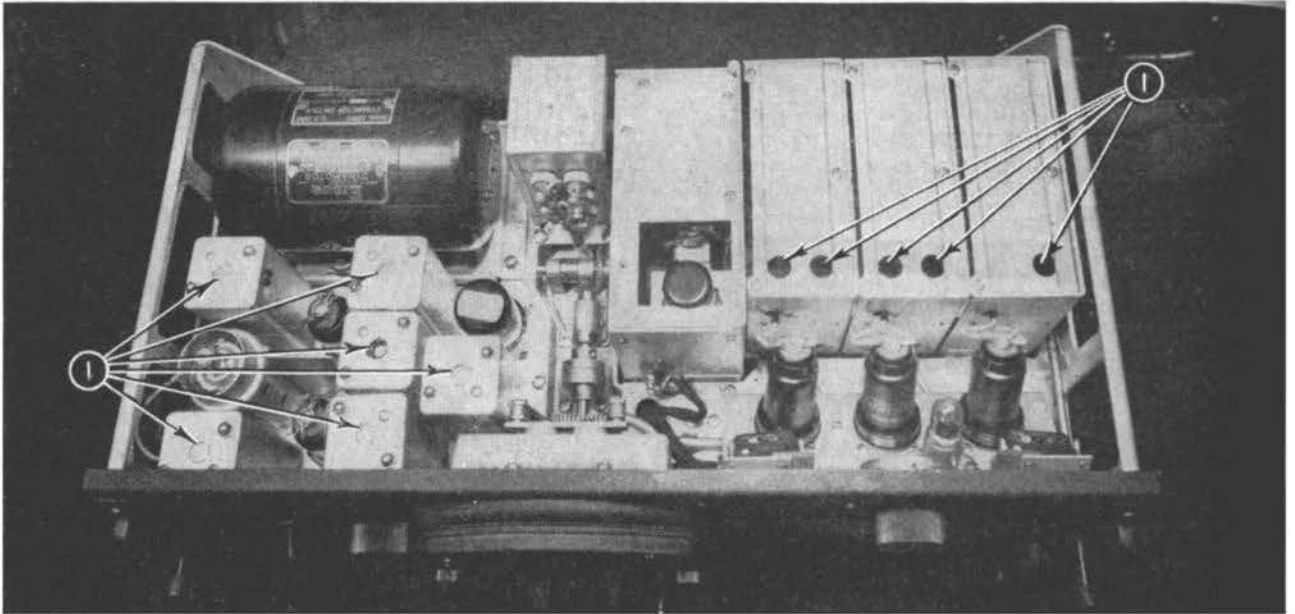

Figure 114. Liaison Receiver—Top View—Case Removed
NOTE: Trimmer adjustments for Antenna, RF, Det. & Osc. can be readily located by reference to Figures 114, 115, and 116 in which item (1) is used as reference for these trimmers.